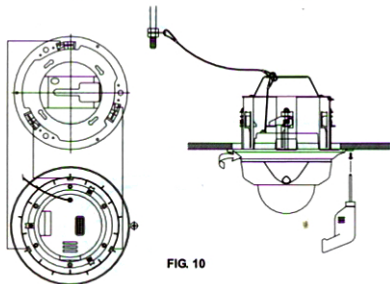

FIG. 10
5. Install the camera by inserting cover lock and twisting it clockwise. (FIG. 10)
6. Fix the decoration cover by screw ($\varnothing 4.0 \times 16$) (FIG. 10)